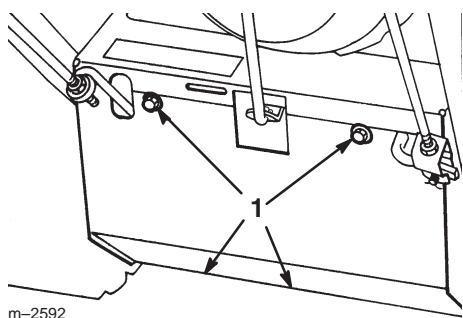

Figure 25
4. Remove the 4 flange-head bolts that secure the bottom cover to the frame and remove the cover (Fig. 25).
8. Remove the 4 flange-head bolts that secure the bottom cover to the frame and remove the cover (Fig. 25).
5. Remove the 4 flange-head bolts that secure the bottom cover and remove the cover (Fig. 25).